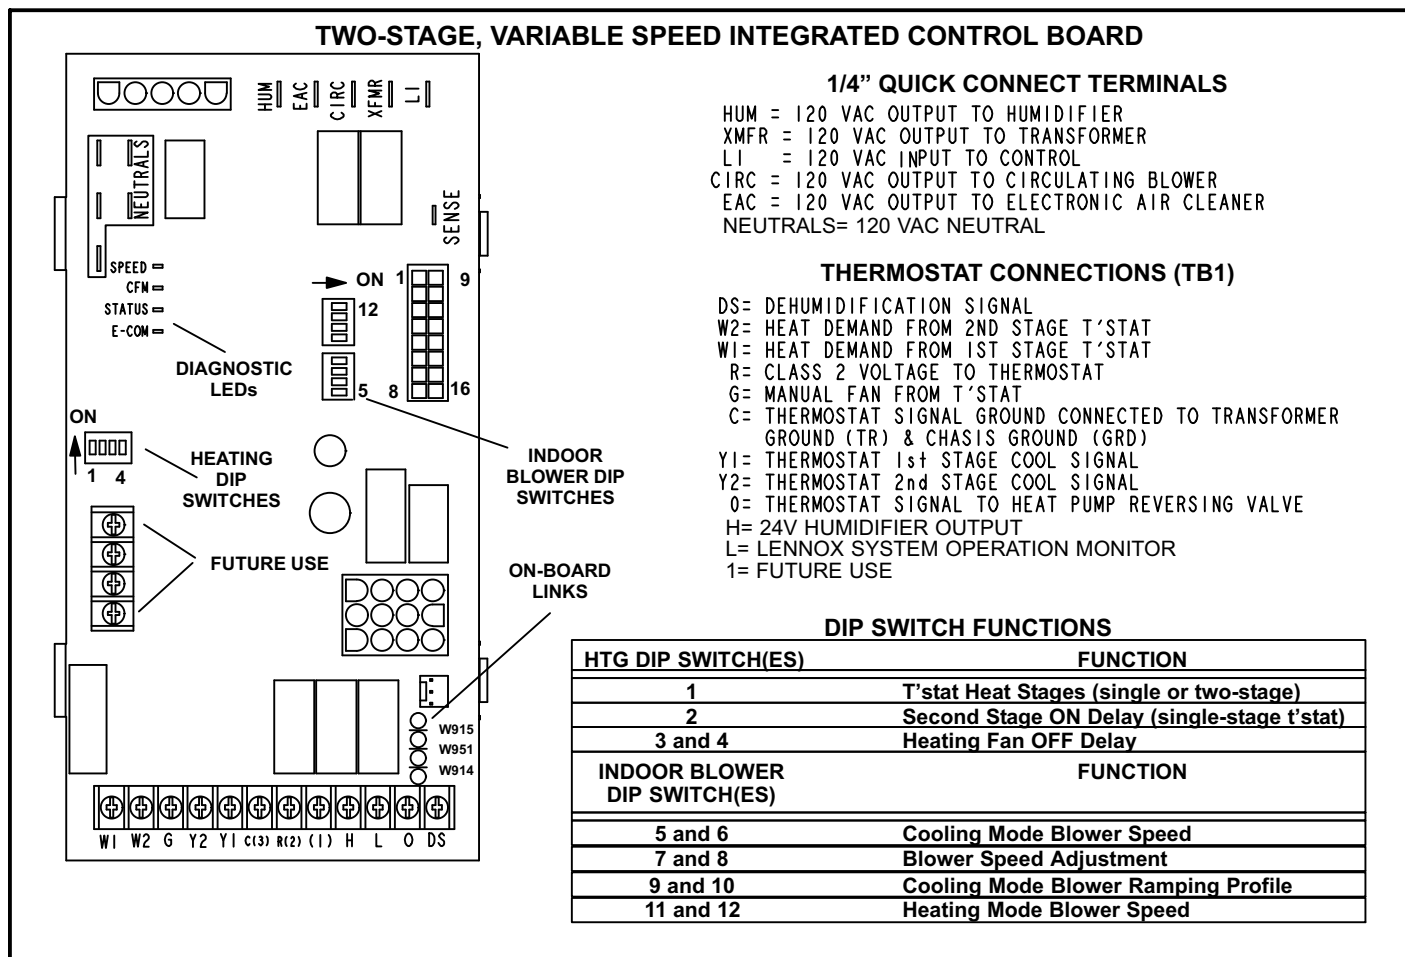

FIGURE 5
G61MPV -7 and later units are equipped with the Lennox two-stage, variable speed integrated SureLight control board. The system consists of a ignition / blower control board (figures 5 and 6) with control pin designations in tables 12, 13 and 14 and ignitor (figure 13). The board and ignitor work in combination to ensure furnace ignition and ignitor durability. The SureLight integrated board controls all major furnace operations. The board features a red LED light, for furnace status and troubleshooting. The LED flashes in "X" + "Y" codes. For example using table 15 under "PRESSURE SWITCH CODES", if the red LED flashes 2 times, then off for 2 seconds then flashes 3 times, the low pressure switch is failed open. Two green LEDs show indoor blower status and CFM. See Page 35 for more detail. The board also has two 120 volt accessory terminals rated at (1) one amp each. In addition there is a 24 volt accessory terminal located on TB1.